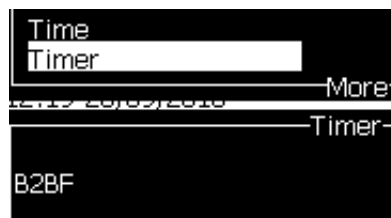

Figure 5-44: *Timer User Field*
- 6 Press *F2* to open the *Select user field* window and select the *Timer* option. You can see the format that you set above, in the preview window shown in Figure 5-44.